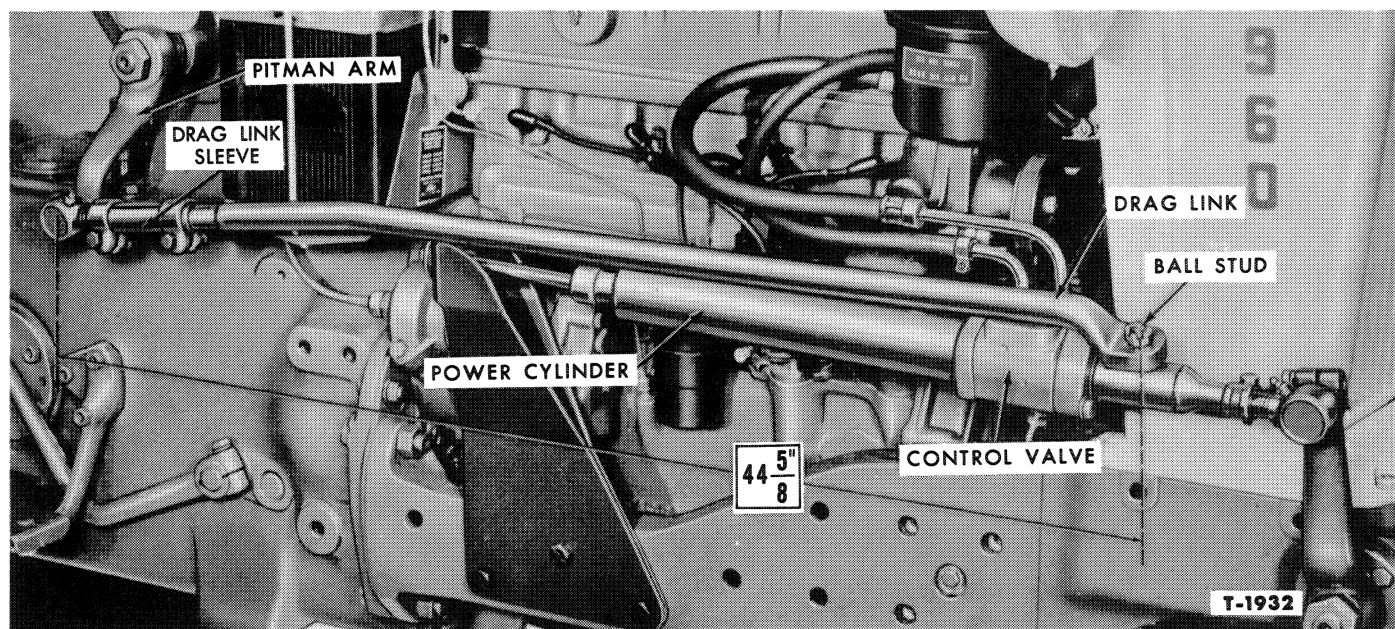

Figure 29—Drag Link Adjustment
9. The length of the assembled drag link should be $44\frac{5}{8}$ inches from the ball stud to ball stud as shown in Figure 29. Adjustment is made by loosening the sleeve clamp nuts and turning the screw-type sleeve to lengthen or shorten the drag link as required. Tighten the clamp nuts after adjustment has been made.